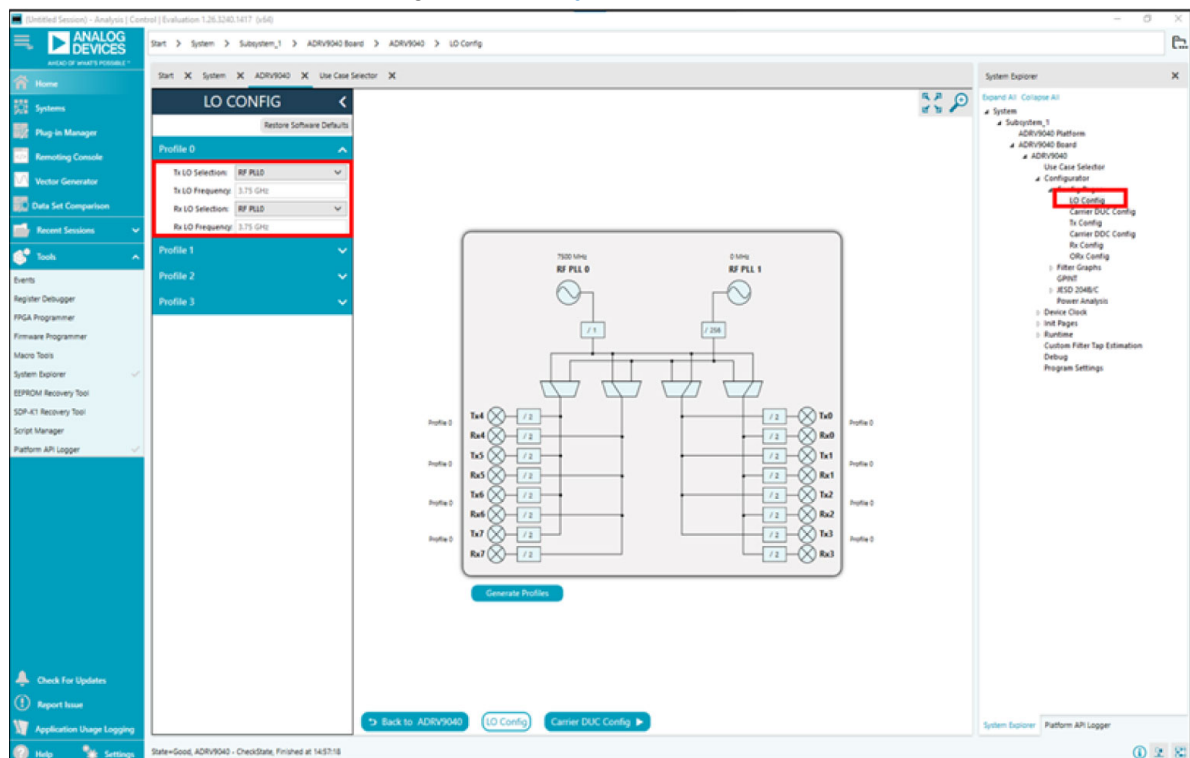

Figure 16. LO Config Page
- Update the RF PLL frequencies under **LO Config** as shown in Figure 16.